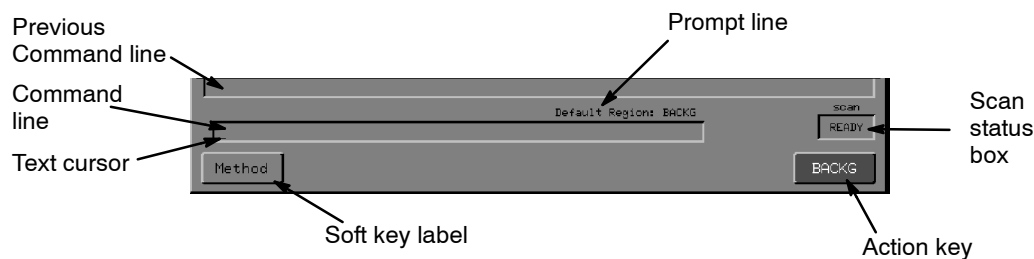

Figure 1-13 The User Interaction Area at Ready For Next Command
Figure 1-13 shows the user interaction area as it appears when you first switch on the Spectrum RXI and when all options are at their factory-default settings. The Spectrum RXI is waiting for you to enter a command (for more information about entering a command, see page 1-23). This is called *Ready For Next Command*, and it is indicated by:
- *Prompt Line*: This line displays information. In Figure 1-13, for example, the message reports that the Spectrum RXI will place the next scan in the Backg spectrum region.
- *Scan Status Box:* This box is always on the screen. It shows whether a scan is in progress, or whether the Spectrum RXI is ready to scan (as in Figure 1-13). When the external beam is selected for either the microscope or external bench accessory, the word **scan** above the scan status box changes to **external**.
- *Soft Key Labels:* The bottom line of the screen contains the labels for the seven soft keys. Only the soft keys that are available are displayed; in Figure 1-13, only four soft keys are displayed. If the label is highlighted, like the **BACKG** key in Figure 1-13, the command is executed immediately when you press the key; this is called an *action key*.